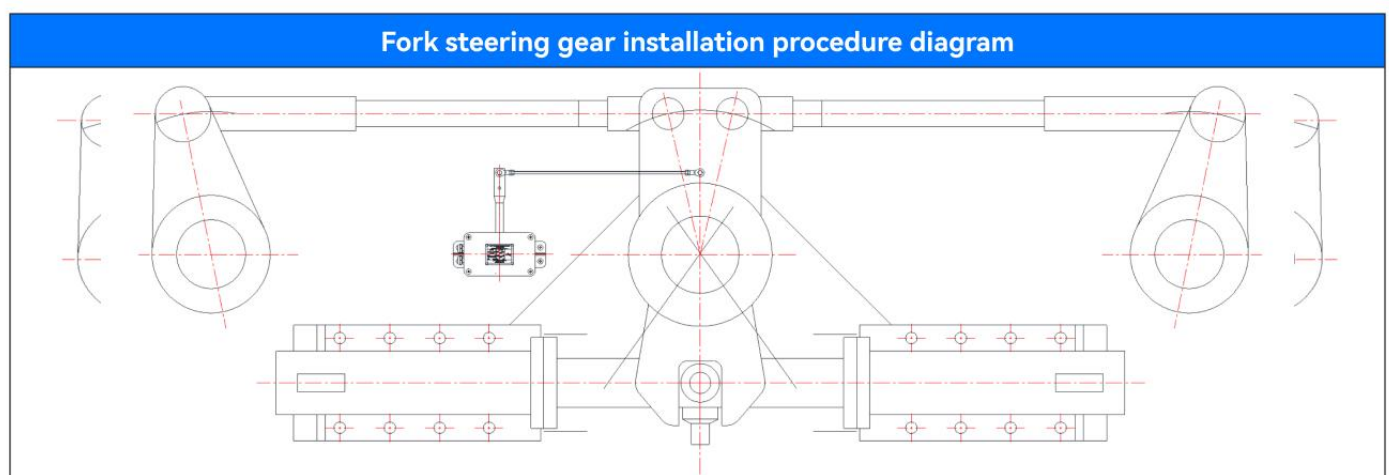

Figure 3.2
2. Installation of tilting fork steering gear rudder Angle feedback device: tilting fork steering gear rudder Angle feedback device is suitable for installation on the left and right sides of the rudder rod, please adjust according to the specific layout of the rudder engine room and position space. First, straighten the rudder and keep the rudder Angle in the middle. Refer to Figure 3.2, the distance between the center of the tiller and the center of the feedback device is $AC=BD$, the length is about 500MM, and the length of $AB=CD$ is about 150MM, forming a parallelogram ABCD. Otherwise, the linear error of the rudder Angle feedback is large and the left and right are asymmetrical.